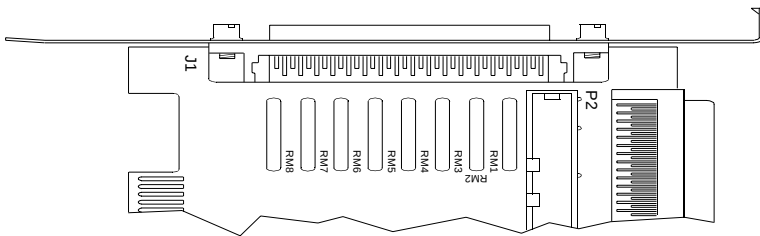
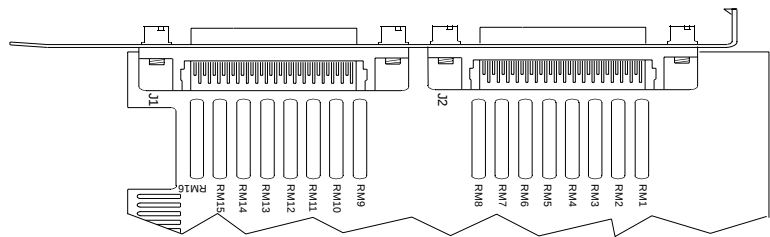

Figure B-1. QLA1041 Terminators
Figure B-5. QLA1240D Terminators
The first and last physical SCSI devices on each end of the SCSI bus must be terminated. Termination for the QLA1041/1240D boards is controlled by a set of resistors (terminators) labeled RM1-RM8 for the QLA1041 (see figure B-1) and RM1-RM16 for the QLA1240D (see figure B-5).
- ☐ If the board is not at one end of the SCSI bus or you are using **two** of the board's connectors, change the termination setting as follows (see figure B-1):
Termination for J1 and J2 is set independently; each is considered a separate SCSI bus. If only wide peripheral devices are connected to the QLA1240D board and the board is at one end of the SCSI bus, no changes are necessary. If you are connecting narrow SCSI devices or the board is not at one end of the bus, change the termination as follows (see figure B-5):